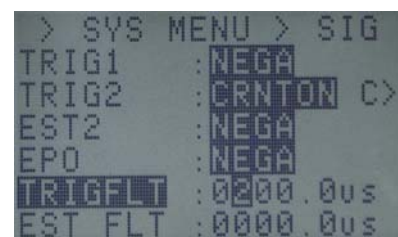

Figure3-49 TRIGFLT
- 4) Select TRIGFLT and push SET Key  (Fig 3-49).